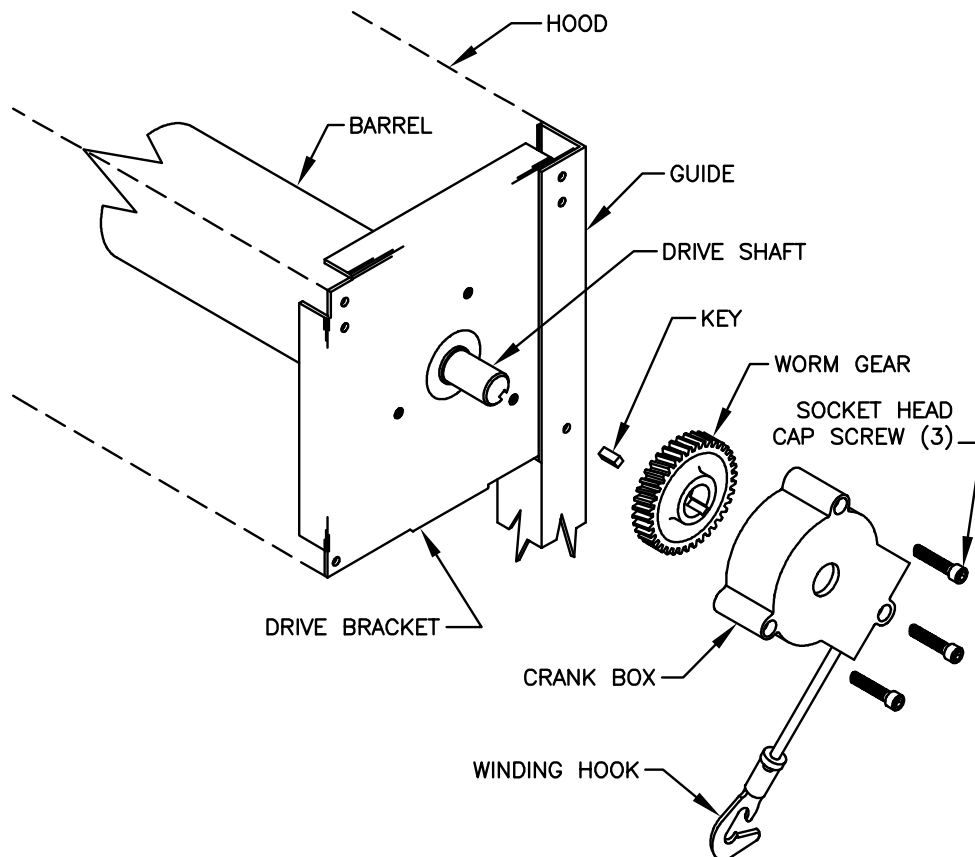

FIG. 10
- 2) Unbolt the gear box and assemble it over the drive shaft as shown below in Fig. 10. On between jamb doors, this is usually done easiest prior to assembling the brackets to the guides.